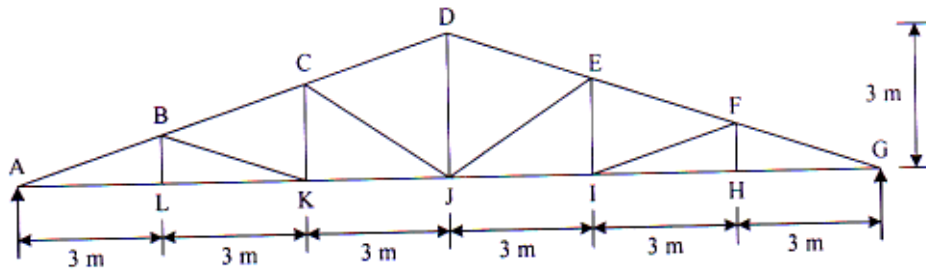

Fig. 9
- Q9)** Determine the design forces in the members AB,AL and BL of a truss as shown in Fig. 9.The design wind pressure is 900 N/m². The truss is covered with AC sheet and the center to center spacing of truss is 6m. [18]